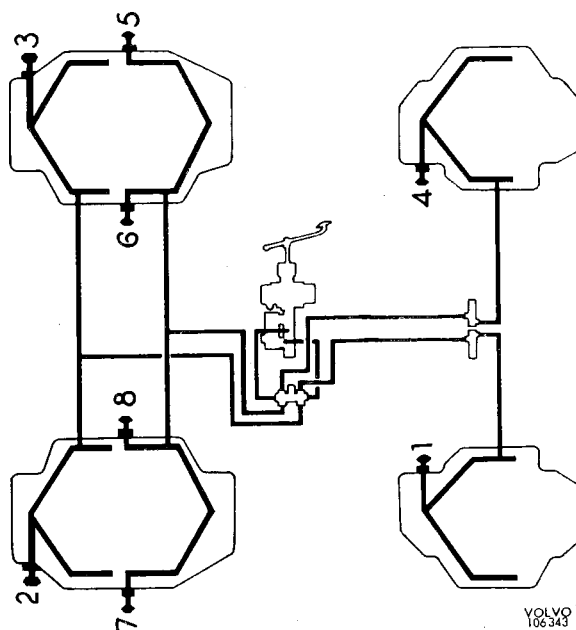

Fig. 5-62. Bleeding diagram
5. Bleeding should take place in the order shown in Fig. 5-62. Note that the bleeder nipple should be opened max. half a turn in order to prevent air from sneaking in via the threads of the nipple.
5. Bleeding should be carried out in the order shown in Fig. 5-62 and as follows: